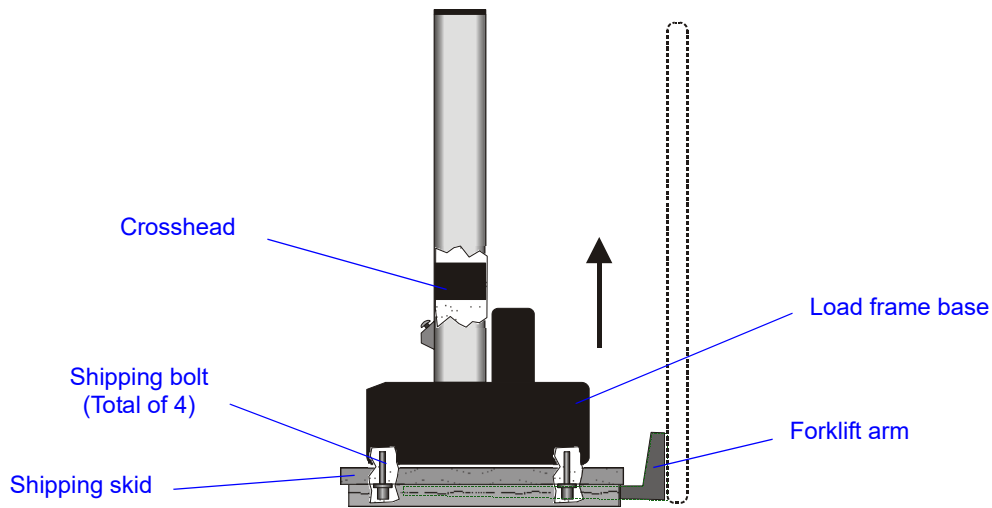

Figure 3-1. Lifting the Frame from the Base
- Frame Base method - Using a forklift to lift the upright load frame from underneath the base with the shipping skid still attached. Refer to Figure 3-1 on page 3-6.
2. Carefully insert the forks under the shipping skid as shown in Figure 3-1 on page 3-6.